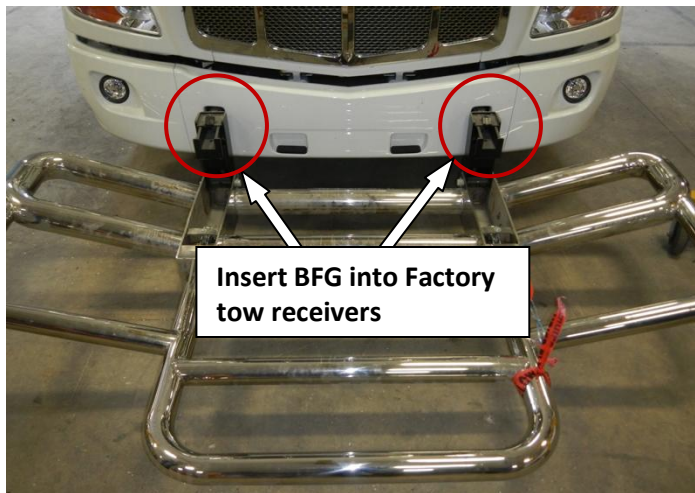
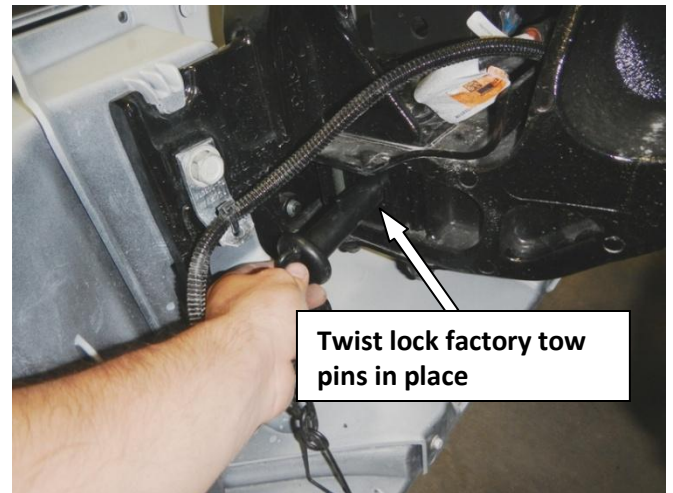

Figure 5 – Grill installation
Figure 6
4. Install the factory bumper back in place, use factory OEM hardware removed in step 1. Insert the BFG into factory tow receivers (Figure 5). Open the hood and lock BFG in place using factory provided tow pins as seen in Figure 6 (twist lock the tow pins as specified in the truck's manual).